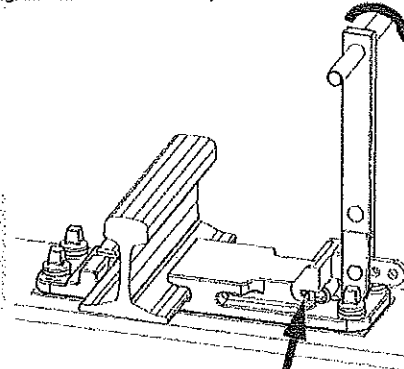

Fig. 23-Drive IFAST spring with installation tool into position
3. Attach the assembly tool to the slide chair and drive the IFAST spring to the stock rail until the end of the spring is in contact with the slide chair, Fig. 23.